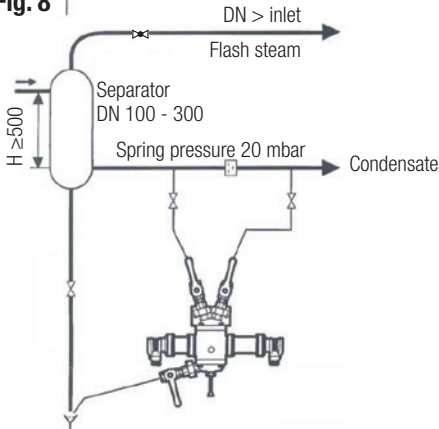

Fig. 10
If this does not help and/or a lot of flash steam occurs ahead of the measuring sensor, fit a separator upstream of the equipment. **Fig. 10**.
- Fig. 10** Installation of sensor in a condensate line with large amount of flash steam.